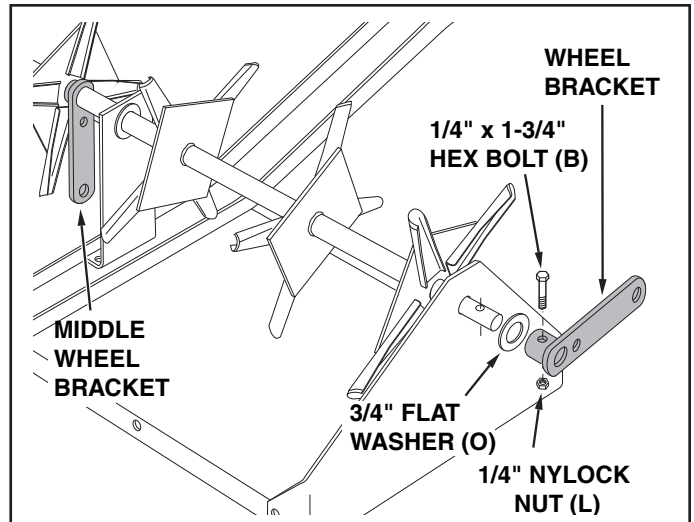

FIGURE 9 **UPSIDE DOWN VIEW**
14. Turn the tray upside down. Place the ends of the shaft through the holes in the end plates (end plates must be loose). Make sure the middle wheel bracket is approximately aligned with the slot in the tray. If it is not, flip the shaft end for end. See figure 9.
15. Assemble a 3/4" flat washer and a wheel bracket onto each end of the shaft. Secure each bracket with a 1/4" x 1-3/4" hex bolt and 1/4" nylock nut. The wheel bracket on each end must point toward the front while the middle wheel bracket points toward the tray. **Tighten.** See figure 9.